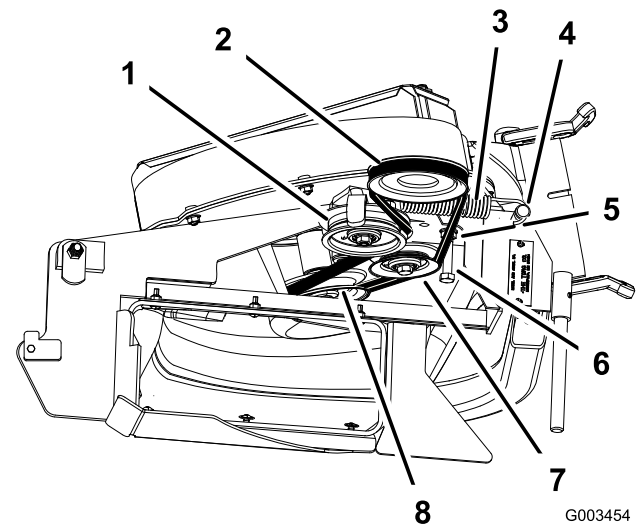

Figure 15
2. For 48- and 52-inch machines, loosen the belt-guide bolt (Figure 15).
3. Install the belt around the blower pulley and fixed-idler pulley (Figure 15).